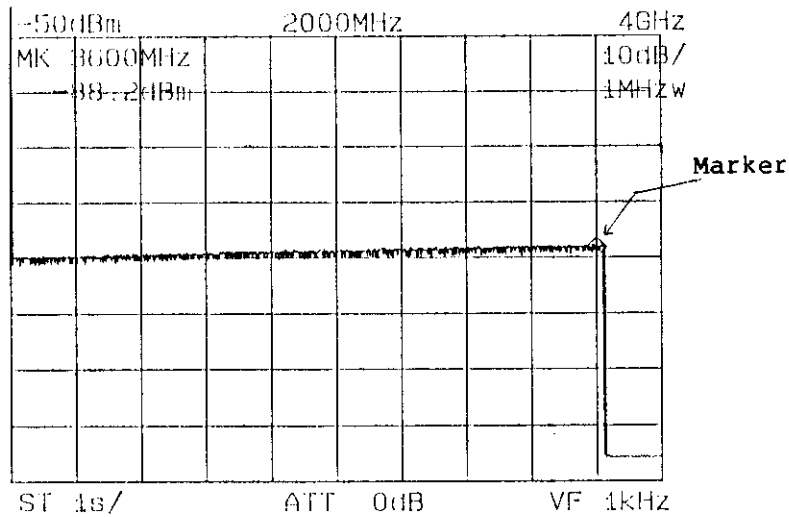

Figure 11-21 Maximum Noise
- ② Turning the TUNING dial, position the marker at the maximum noise level point. (See Figure 11-21)